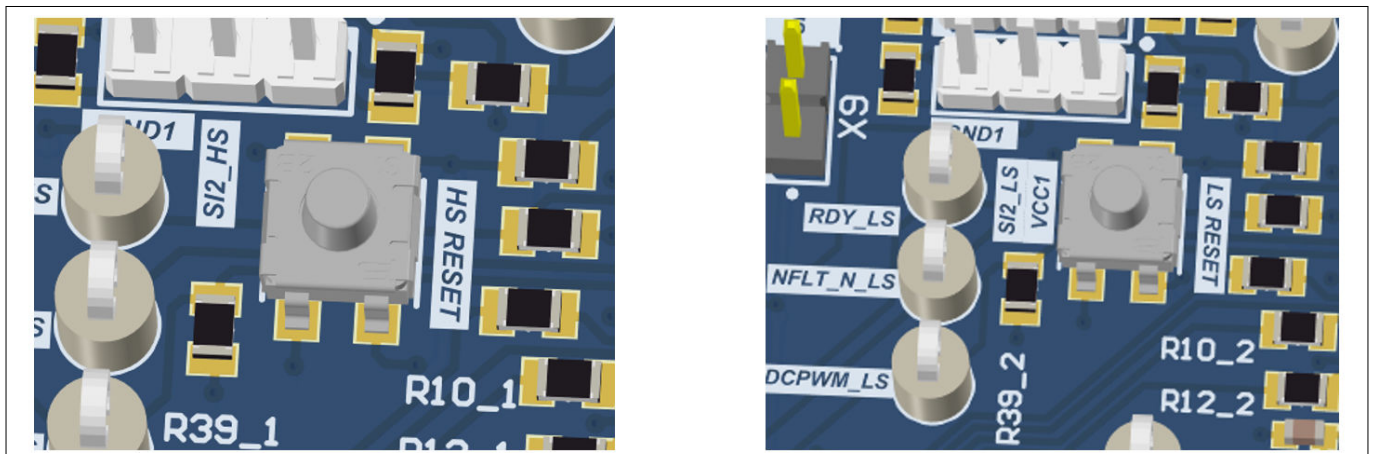

Figure 9 RESET button of HS and LS
4. Press HS and LS RESET buttons twice. See Figure 9. After that, the NRST rising edge triggers the start-up of the fly-back. In addition, RDY goes high